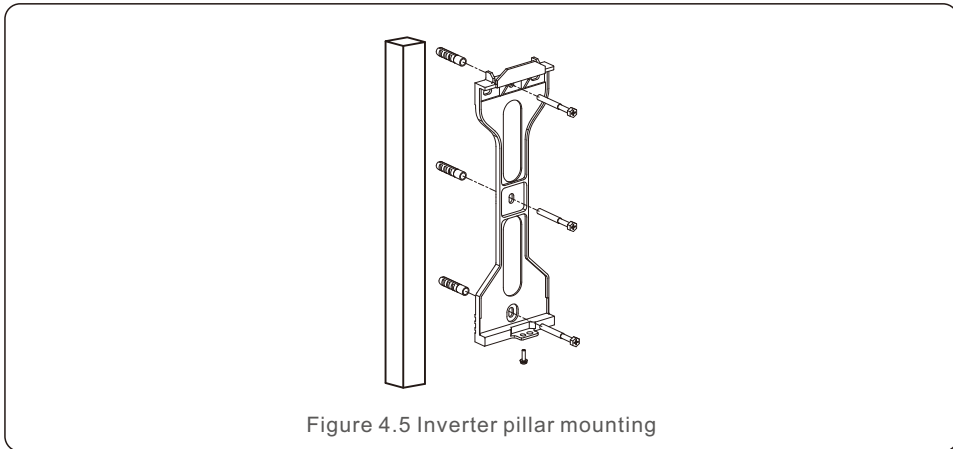

Figure 4.5 Inverter pillar mounting
Please see Figure 4.4 and Figure 4.5 for instruction on mounting the inverter. The inverter shall be mounted vertically. The steps to mount the inverter are listed below.
2. Make sure the bracket is horizontal and the mounting holes (in Figure 4.4 and Figure 4.5) are marked correctly. Drill the holes into the wall or pillar at your marks.